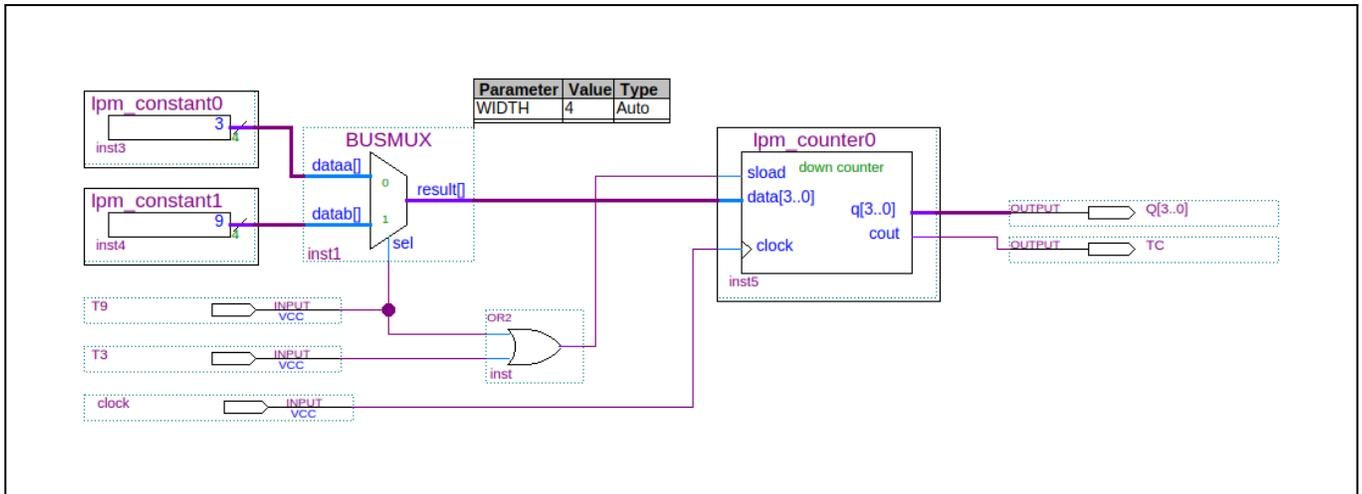

Figure 14. The timer module.
11. Add a **busmux**, an OR gate, 3 input ports and 2 output port like in Figure 14.